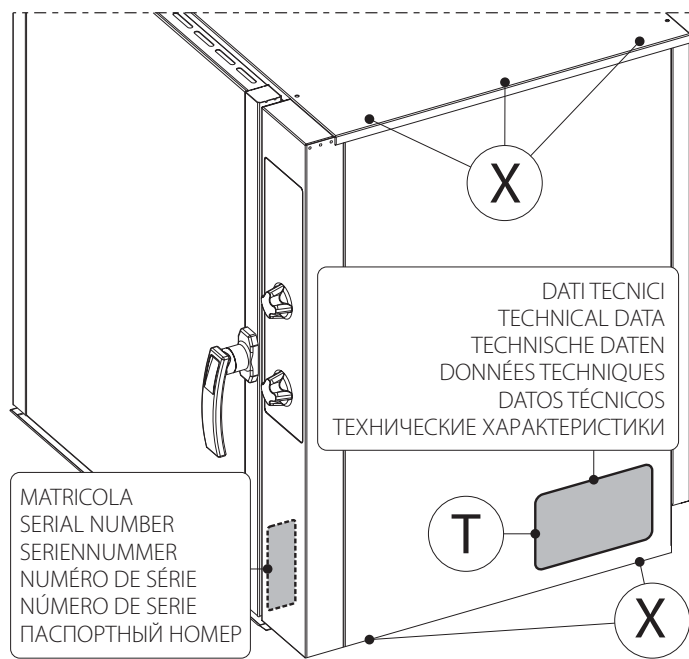
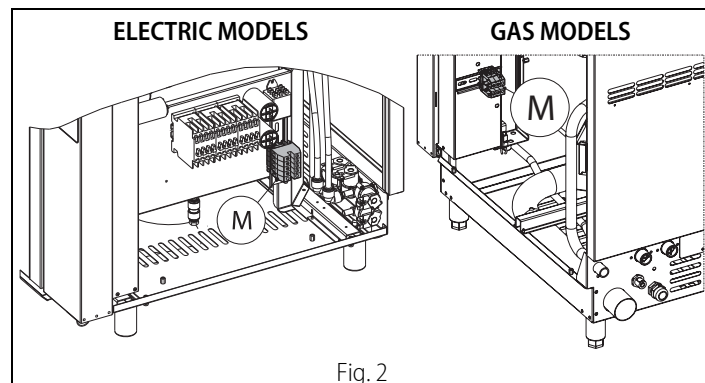

Fig. 1.1
Fig. 2
**i** The stick-on data plate | T | fig.1.1 is placed both in the external and in the inner part of the right panel.
To access the terminal board | M | fig. 2 remove the back panel by loosening the screws | X | fig. 1.1 on the lower and upper part of the panel itself. Following the instructions provided on the wiring diagram, connect the wires of the power cable to the terminal board. Keep the cable laid on the bottom and fix it by means of the | ⚡ | cable gland (fig.1). The appliance must be connected to a good earth electrode and, for this purpose there is a screw marked with the symbol ⚡ close to the connection terminal board to which the earth conductor must be connected. The appliance must also be included in an equipotential bonding, this connection is done with a screw marked with the symbol | ⚡ | fig.1 placed on the rear panel of the appliance. The equipotential wire must have a section of 10 mm2.